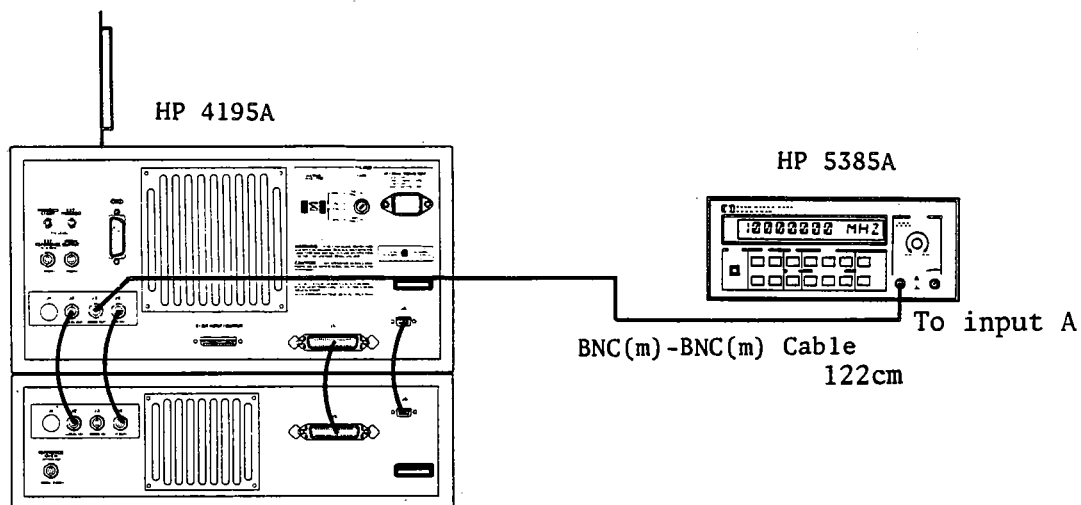

Figure 3-33. 80 MHz Reference Source Frequency Adjustment Setup
2. Connect the equipment as shown in Figure 3-33. Leave the **EXT REFERENCE** connector on the Control Unit rear panel unconnected.